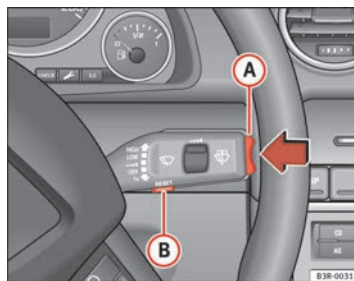

Fig. 60 Windscreen wiper lever: On-board computer controls
Press RESET button **(B)** ⇒ page 86, fig. 60 to switch back and forward between the functions of on-board computers 1 and 2.
The driving time warning can be switched off by briefly pressing the function selector switch or the **[Reset]** button ⇒ fig. 60.
- Press the top or bottom of the function selector switch **(A)** ⇒ fig. 60. This displays the functions of the on-board computer in sequence.